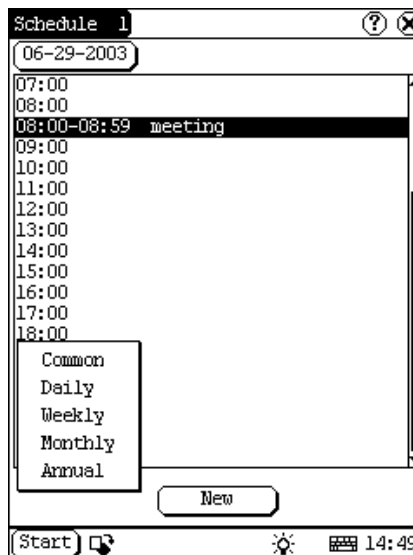

Figure 5-29
- 1) In the Schedule interface, click [New] button so that the Cycle list pops up. See Figure 5-29.